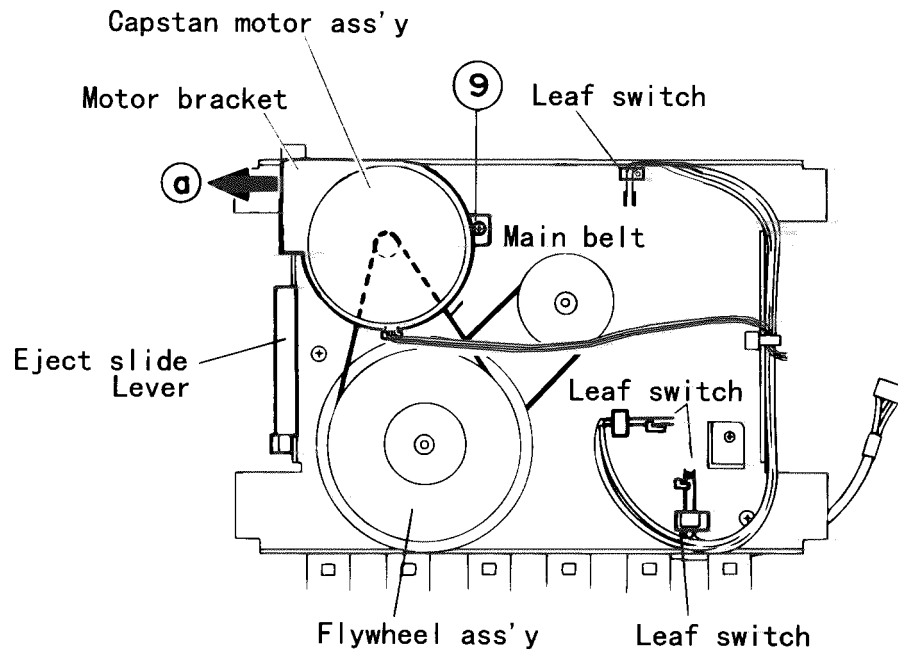

Fig.2-10
■ Capstan motor (Fig.2-10)
2. Remove one screw ⑨ retaining the capstan motor assembly from the back of the cassette mechanism assembly.
3. Disengage the main belt from the flywheel assembly. Then slide the capstan motor slightly in the direction of the arrow ① while lifting it upwards to remove together with the main belt.